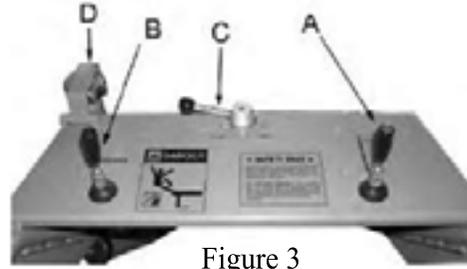

Figure 3
6. **Starting the machine (See Figure 3)**
- c. Before anything else you must turn the speed control lever (C) to the slowest position.